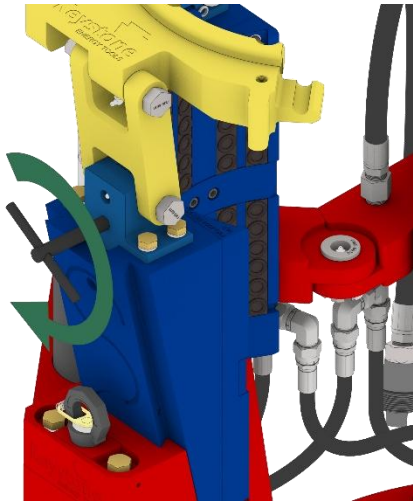

Fig. 15
**Step 4:** By turning the T-handle tool clockwise the latch will slide back into the housing far enough for the insert carrier to not be held in by the latch. See figure 15 & 16.